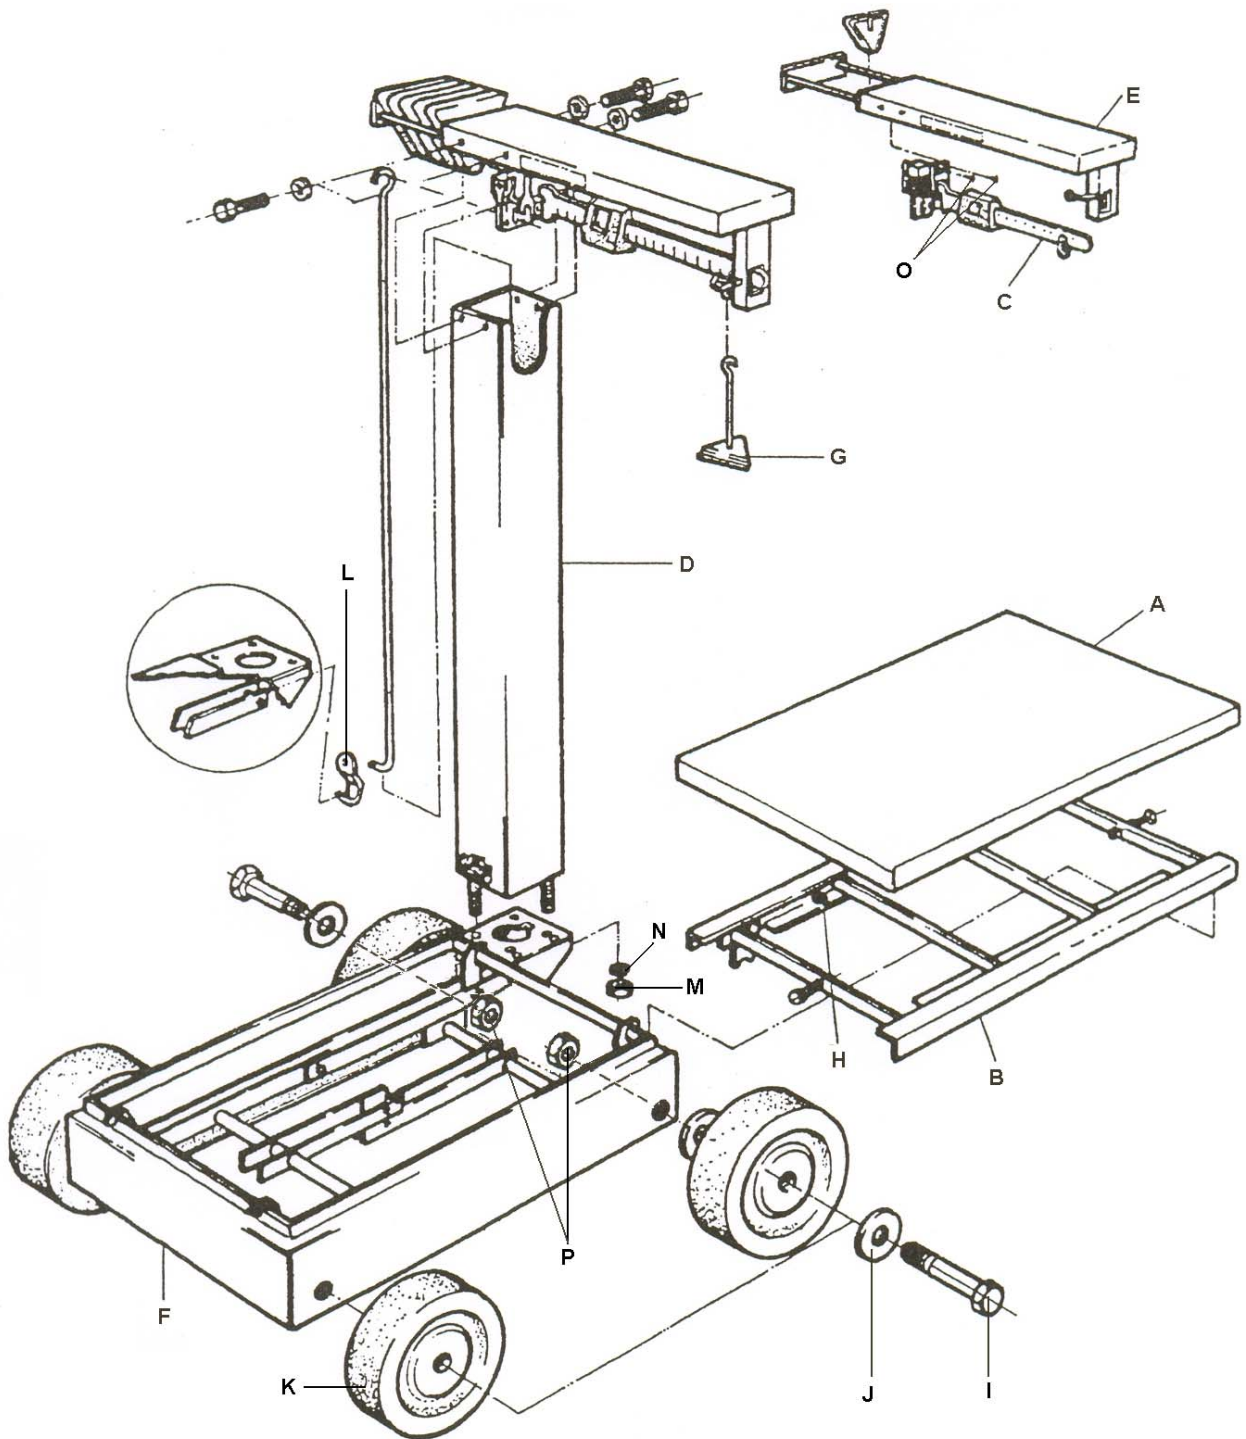

Figure 2
(NOTE: Refer to the exploded view diagram, Figure 2, for assembly assistance).
3. For reinstallation purpose, note the location of the level bubble (item H, figure 2) on the spider assembly. Also note the position of the two bolts in the center front and center back of the spider assembly. Lift out the spider assembly and place it off to the side